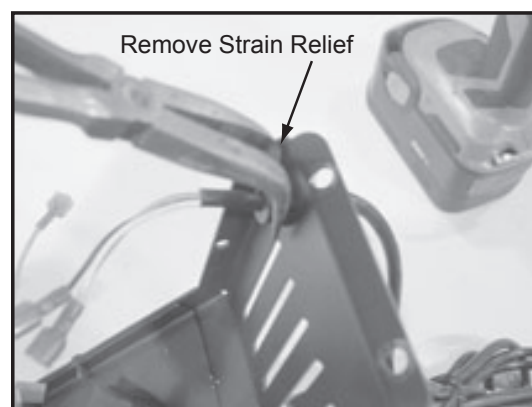

Figure 42.3
4. Remove the strain relief with pliers. This will free the power cord from the convection housing. **Figure 42.3.**